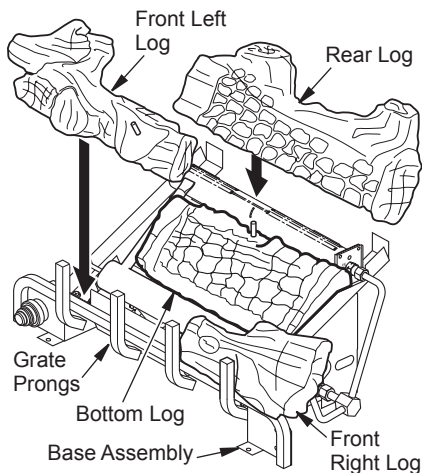

Figure 29 - Installing Log Set
1. Place bottom log in center of the base assembly as shown in Figure 29.
2. Rest rear log in back corner sections of base assembly as shown in Figure 29. Make sure log is completely vertical and not leaning in toward burner where flame will touch the log.
3. Position front right log against right side of grate prongs (see Figure 29).
4. Position front left log against left side of grate prongs (see Figure 29).